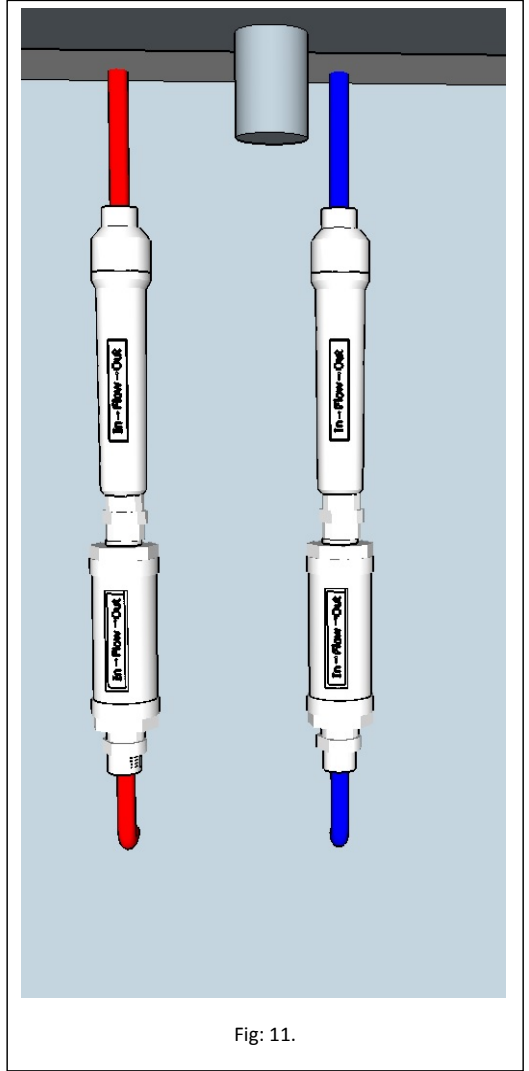

Fig: 11.
Please see figure 1 - figure 11.
- Place in-line filter according to figure 11 in cold water supply only or both in cold and warm water supply as desired (2 in-line filters and 2 strainers required).